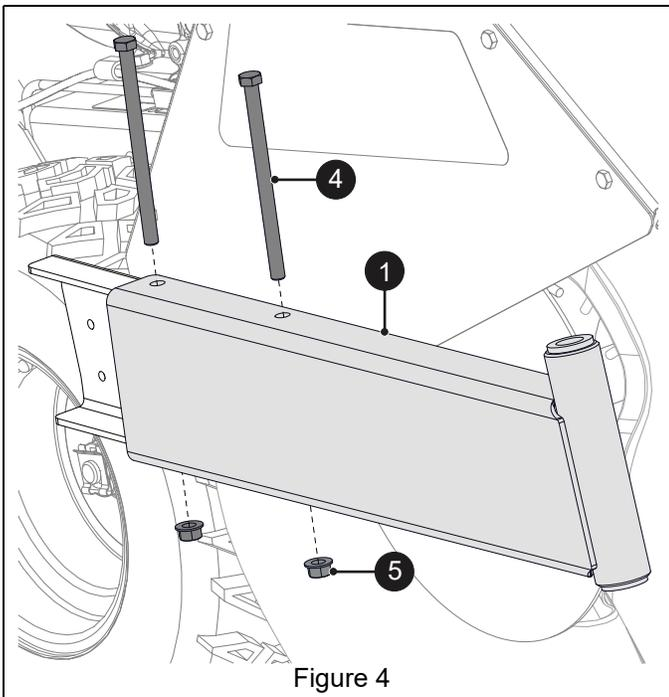

Figure 4
- Position right caster arm (item 1) on right brush housing bracket and secure with two 3/8" x 5 1/2" hex bolts (item 4) and two 3/8" locking top flange nuts (item 5). See Figure 4.